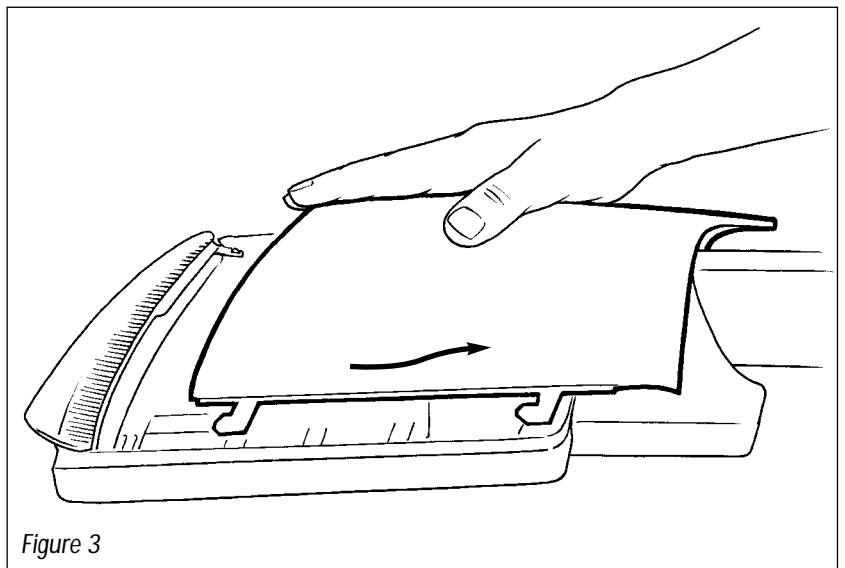

Figure 3
3. At the same time, slide the mirror cover towards the vehicle door. (see Figure 3 opposite)